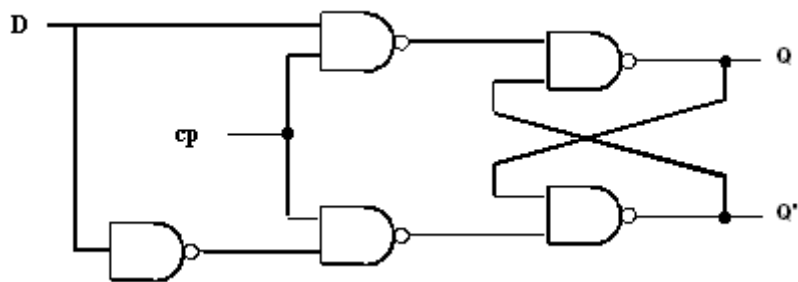

Figure 3
1. Implement the circuit in Figure 3 on the kit using two of IC 7400 which has four NAND gates.